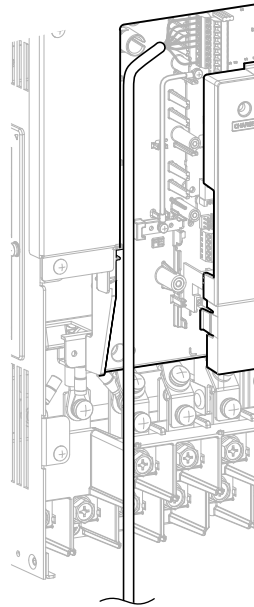

Figure 6.7 Wire Routing Examples
1. Route the communication wiring inside the enclosure as shown in Figure 6.7.